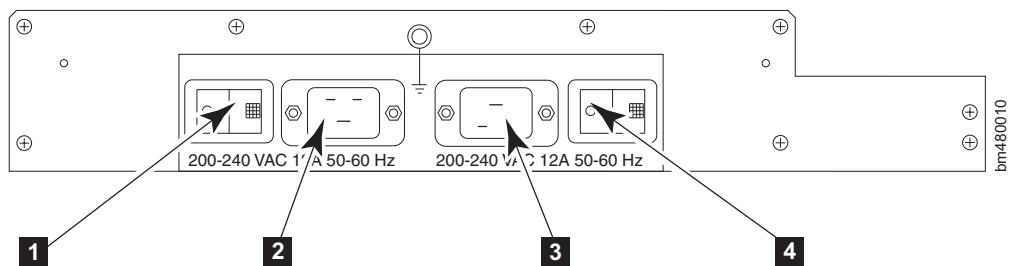

Figure 27. Ac power connectors and ac power switches
Figure 27 identifies the locations for the ac power connectors and ac power switches on the director chassis. If you are removing or installing the cable management tray while the director is on, you must remove the ac power connector cables *one at a time* in order to route the cables through the cable management tray, and maintain power to the director. If only two power supplies are installed and they are both installed in slots corresponding to the same ac power connector cable, unplugging a single ac power connector cable can power down the entire chassis. See Figure 27 for the locations of the ac power connectors and ac power switches on the director chassis.
4. Switch one ac power switch off (for example, **1** in Figure 27 on page 54) and remove the corresponding ac power connector cable (for example, remove the cable from **2** in Figure 27 on page 54) from the chassis. Route the ac power connector cable through the tray.
2. Switch one ac power switch off (for example, **1** in Figure 27 on page 54) and remove the corresponding ac power connector cable (for example, remove the cable from **2** in Figure 27 on page 54) from the chassis. Route the ac power connector cable through the new tray.